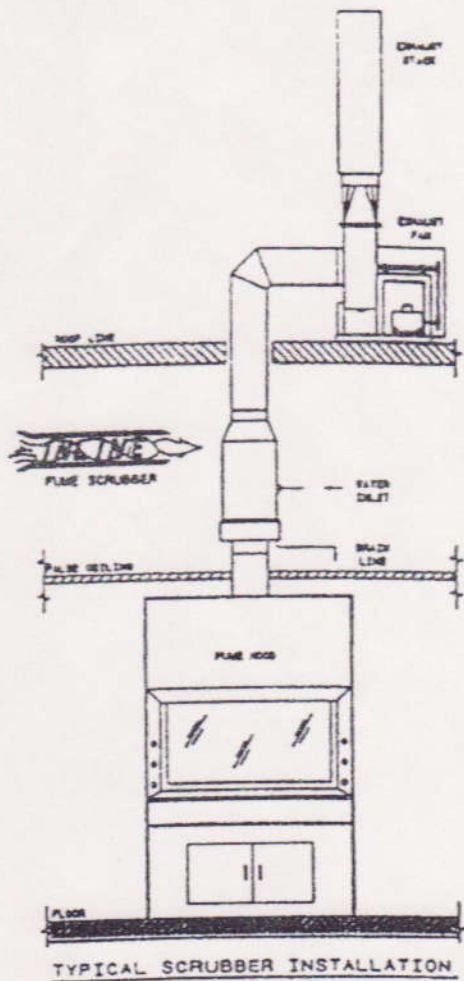
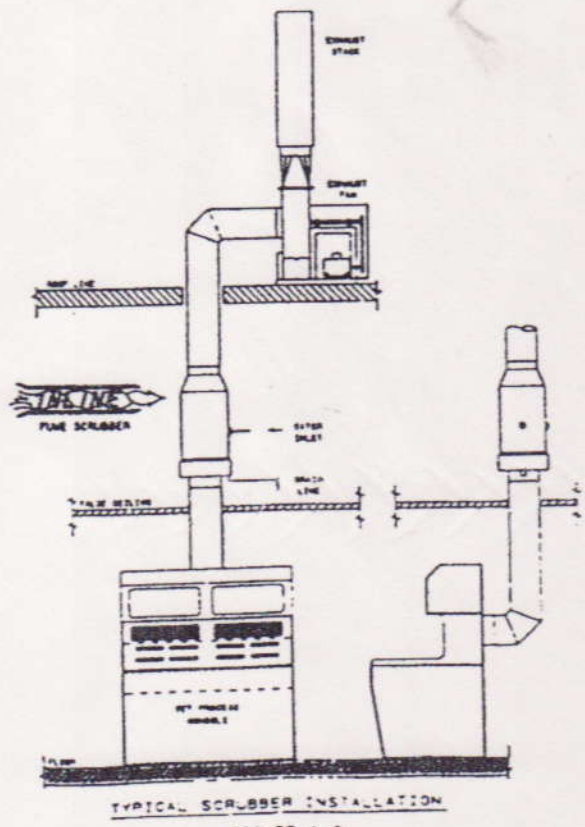

FIGURE 1.0
FIGURE 1.3
2. A negative air pressure draw through the scrubber is required. This means that the blower fan is to be located on the outlet side of the scrubber (refer to Fig. 1.0 through Fig. 1.3 for typical installations). A positive air pressure to the inlet is "not" recommended. For existing systems, modifications may be necessary on the blower fan to attain the required CFM. In some cases, a larger blower fan may be required. It is very important for scrubber performance that CFM requirements are achieved (See chapter V.). If less than the specified CFM is available, the use of a balancing tee can be utilized to draw air from another source. This will enable the scrubber to operate at optimum performance (see FIG 2.1). For new and existing installations, it is highly recommended to use an *Inline* model exhaust fan. This fan has been specifically designed for use with the VS-Series to achieve maximum scrubber performance.